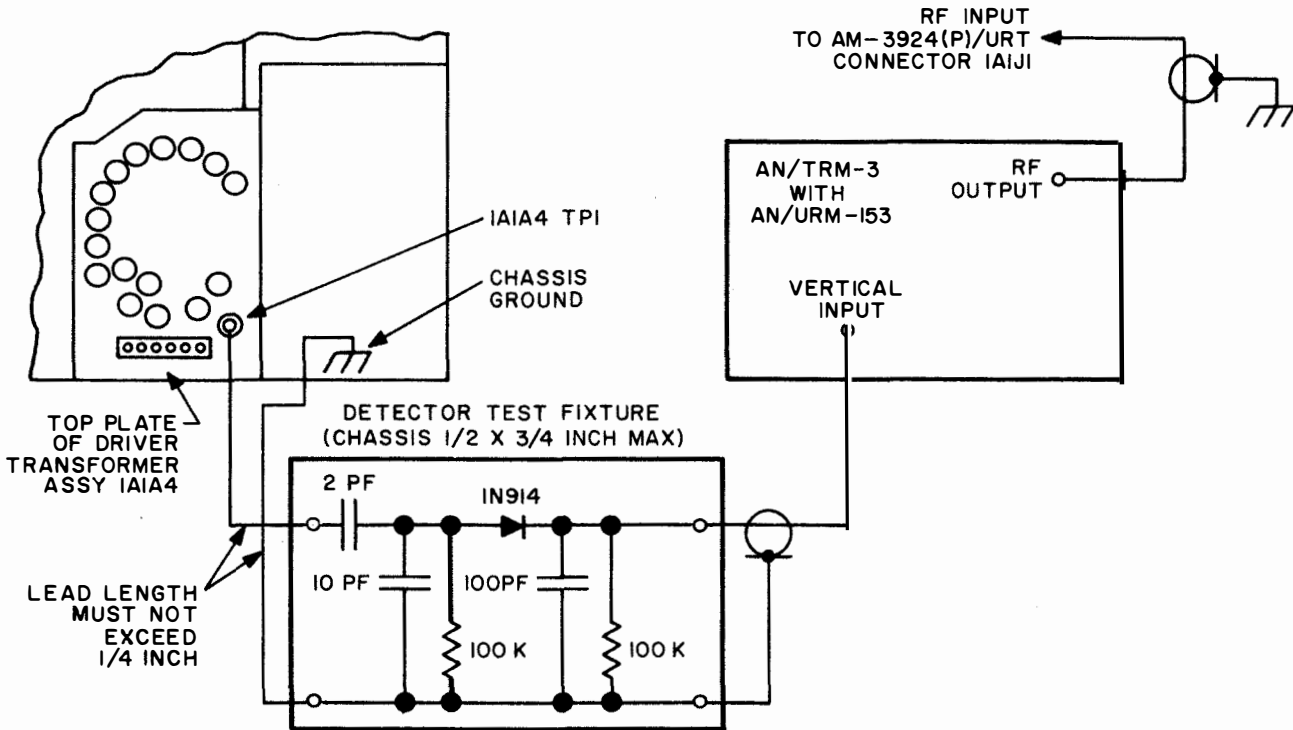

Figure 5-2. Alignment Test Setup Diagram
5-18. DETECTOR TEST FIXTURE. A small detector network will be required during alignment of the AM-3924(P)/URT. Figure 5-2 shows the components. Use one-quarter watt composition resistors, and ceramic or mica capacitors rated at or above 50 volts. The parts should be mounted on a surface no larger than 1/2 inch by 3/4 inch, and connected with leads not exceeding 1/4 inch.
- f. Connect test fixture fabricated in paragraph 5-18 as shown in figure 5-2.